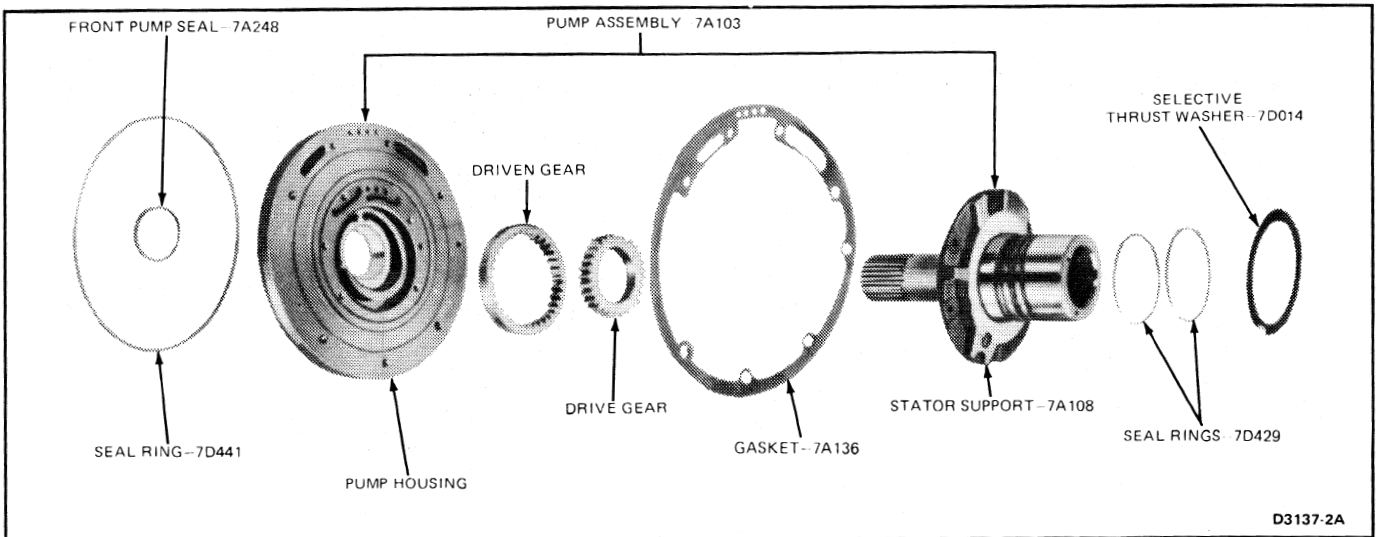

FIG. 37 Front Pump Disassembled
- Remove the two seal rings and the selective thrust washer (Fig. 37).